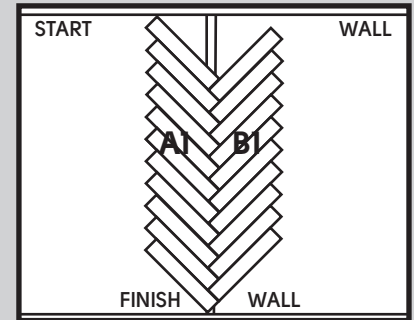

Fig 6.
7. Continue installing planks without cutting any planks working in opposite directions. Verify that the installed planks are straight on the lines (Fig 6.).